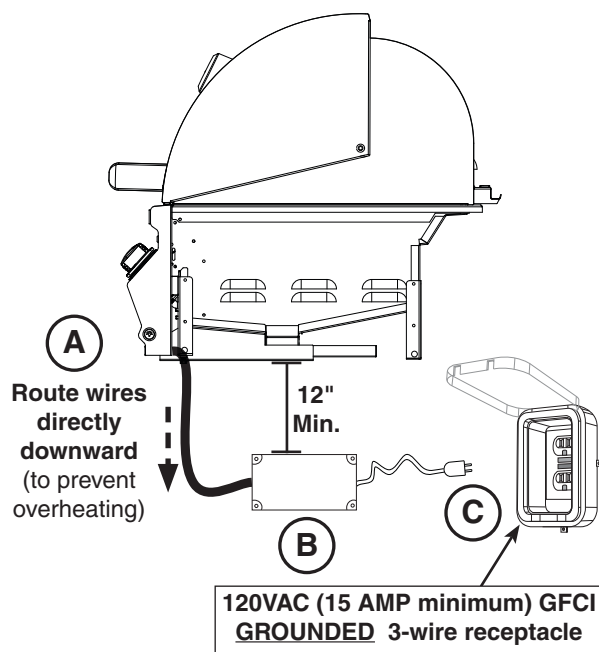

Fig. 24-1 Electrical installation
1. Route the wire harness extension below the control panel and directly downward. This will prevent overheating. **DO NOT** route the wire extension below the grill. See Fig. 24-1, A.
2. Mount the power supply box to the inside of the enclosure using appropriate hardware for your enclosure. It **MUST** be located at least 12 inches below the bottom of the unit. See Fig. 24-1, B.
3. Connect the cord coming from the power supply to a **120VAC (15 AMP minimum) GFCI GROUNDED 3-wire receptacle** (see Fig. 24-1, C). The GFCI receptacle must be a WEATHER-PROOF IN-USE COVERED RECEPTACLE.